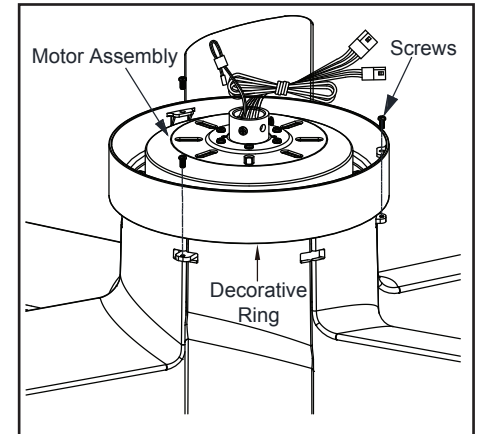

Figure 7
2. Make sure all the screws are firmly tightened. (Figure 7)